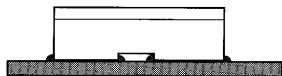

Figure 6C
4. A bead of epoxy should be formed around the perimeter of the mounting feet, as shown in Figure 6C.